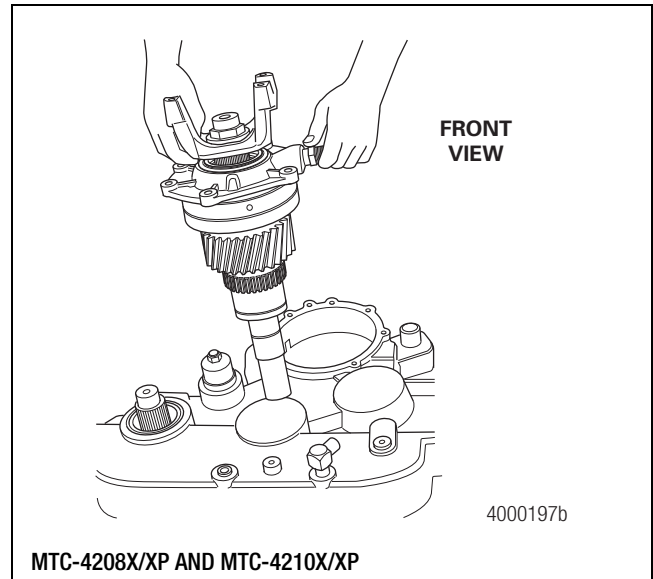

Figure 4.24
1. Support the front input shaft and bearing cage assembly at the workbench. Figure 4.24.